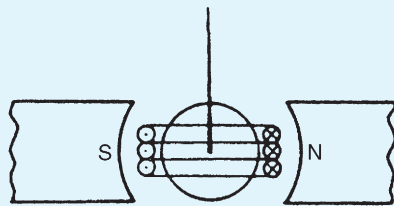

Figure 8.19
8. Fig. 8.19 shows a simplified diagram of a section through the coil of a moving-coil instrument. For the direction of current flow shown in the coil determine the direction that the pointer will move.